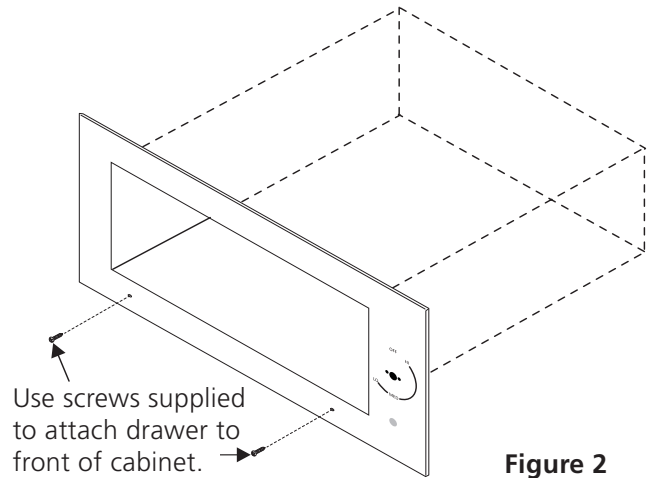

Figure 2
3. Remove the drawer as instructed in the Use & Care Guide and secure drawer housing to cabinet using the 2 nickel-plated screws supplied (see Fig. 2). **Do not overtighten screws.**